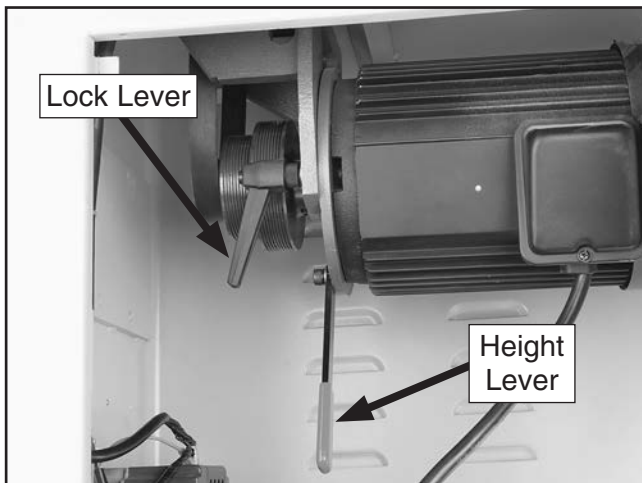

Figure 25. Motor lock and height levers.
3. Open the cabinet door, loosen the lock lever, pull up on the height lever to raise the motor to the highest position, then re-tighten the lock lever to secure the motor in place (**Figure 25**).